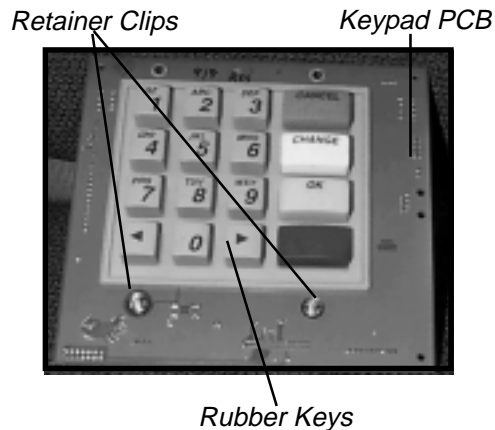

Figure 4a. Retainer Clips Installed on Bottom Keypad Mounting Screws.
Make sure the Rubber Keys are oriented correctly for installation into the Front Panel. See Figure 4a.
Use the two Retainer Clips (provided) to hold the two bottom mounting screws to the SPED Keypad PCB. These clips must be between the SPED Keypad PCB and the Cash Dispenser front housing when the board is installed! See Figures 4a and 4b.
7. Install the SPED Keypad PCB Assembly and secure in place with the 4 screws and washers removed in Step 4. Use the two Retainer Clips to hold the bottom mounting screws to the SPED board, as shown in Figure 4a.